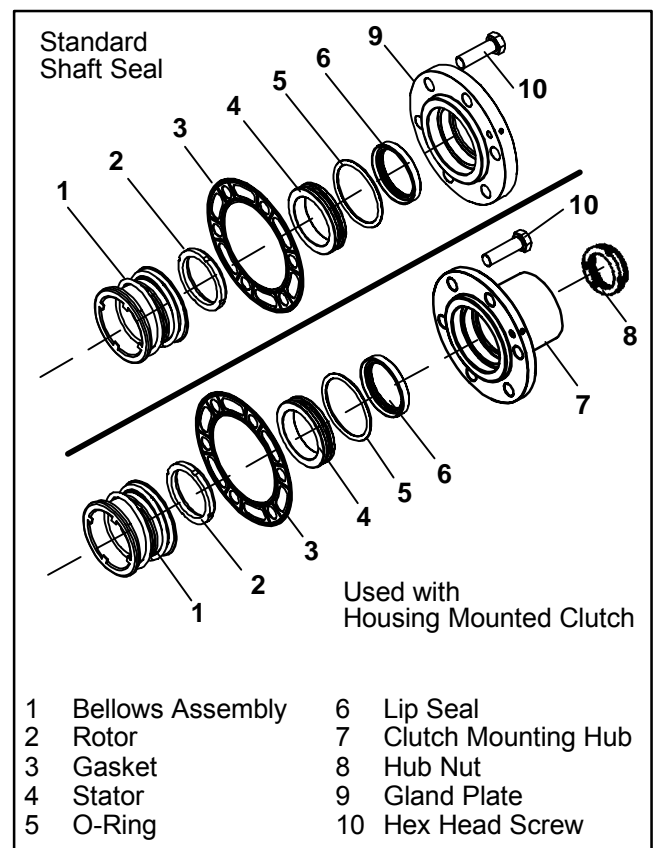

Figure 3-7. Shaft Seal
- a. Remove 6 capscrews, remove the shaft gland plate or clutch mounting hub. Remove rotor from top of bellows assembly. (See Figure 3-7)